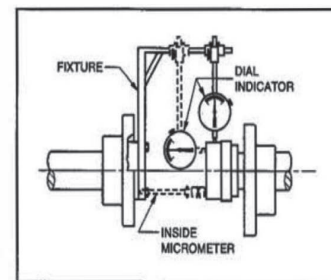

Figure 3. Testing alignment, dial indicator
- (c) The preferred test for parallel and angular alignment may be made with a dial indicator mounted as shown in Figure 3. Proceed as follows:
- (1) Scribe the index lines on the coupling halves (as shown) or mark where the indicator point rests.
- (2) Set indicator dial to zero.
- (3) Slowly turn **BOTH** coupling halves so that index lines match, or indicator point is always on the mark.
- (4) Observe dial reading to determine whether pump or driver needs adjustment.
- (5) Acceptable parallel and angular alignment occurs when total indicator reading (complete turn) does not exceed limits specified by the coupling manufacturer. Refer to pages 15 - 21.